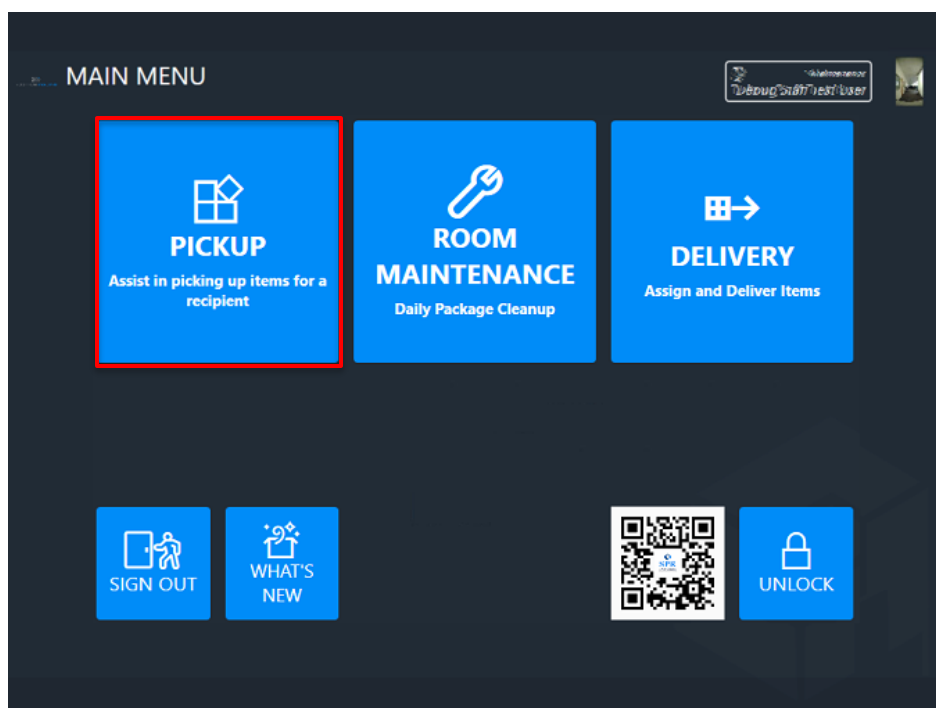

Figure 66: Main Menu screen
2. Tap **Pickup** from the Main Menu screen. See Figure 66.